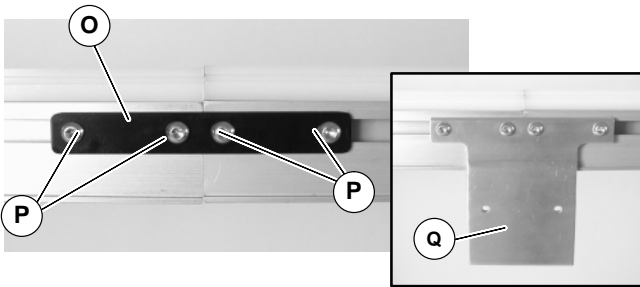

Figure 6
- Join conveyor sections and install connector brackets (O of Figure 6) or connector/mount brackets (Q) and screws (P) on both sides as indicated.
- Tighten screw (P of Figure 6) to 60in-lb (7 N-m) on both sides of conveyor.